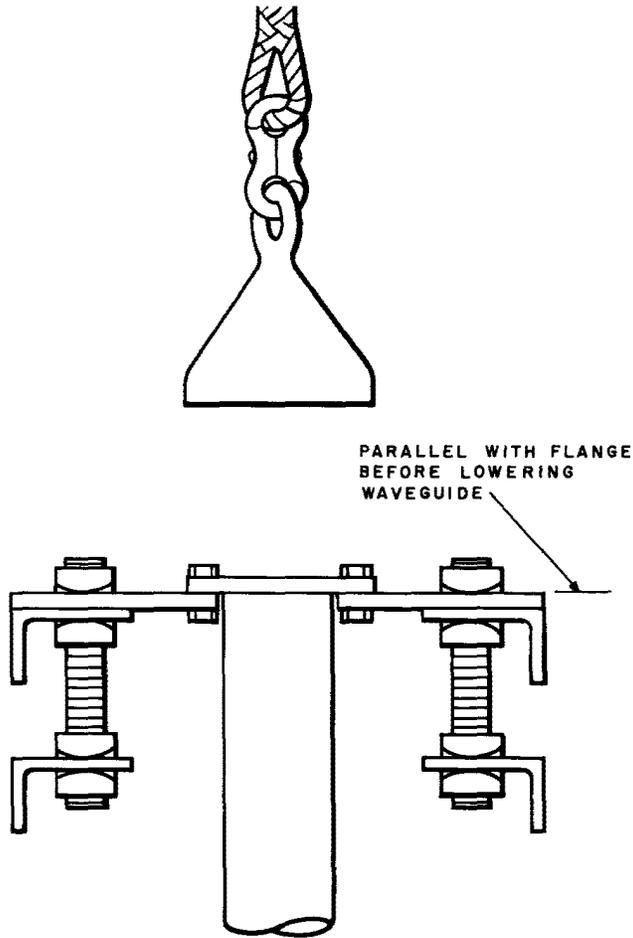

Fig. 12—Securing Circular Waveguide
2.16 Lower the waveguide run until the upper flange is in contact with the split plate as shown in Fig. 12. In doing this, turn the waveguide so that the heads of the bolts holding the pulling head to the waveguide flange will recess into the